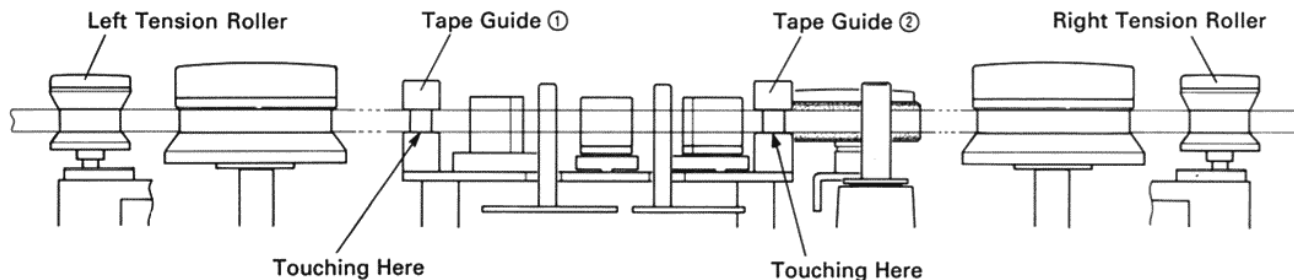
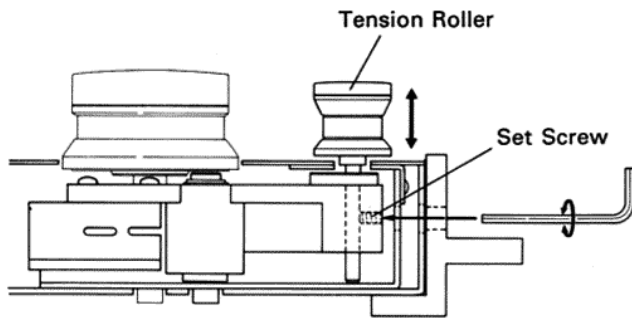

Figure 5-11. Tape Positioning
Figure 5-12. Tension Roller Height Adjustment
Tension roller height is adjusted by first loosening the set screw with a hexagonal wrench then moving the tension roller in and out (see Figure 5-12).
2. Refer to Figure 5-12 and adjust the height of the left and right tension rollers until the tape lower edge slightly contacts the lower flange of the tape guides "1" and "2" shown in Figure 5-11.